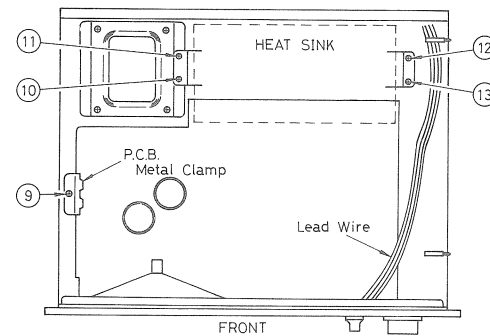

Fig. 4
6. Remove a metal clamp-mounting screw, no. ⑨, as shown in fig. 4.
8. Remove four (4) heatsink-mounting screws, nos. ⑩ ~ ⑬, as shown in fig. 4.